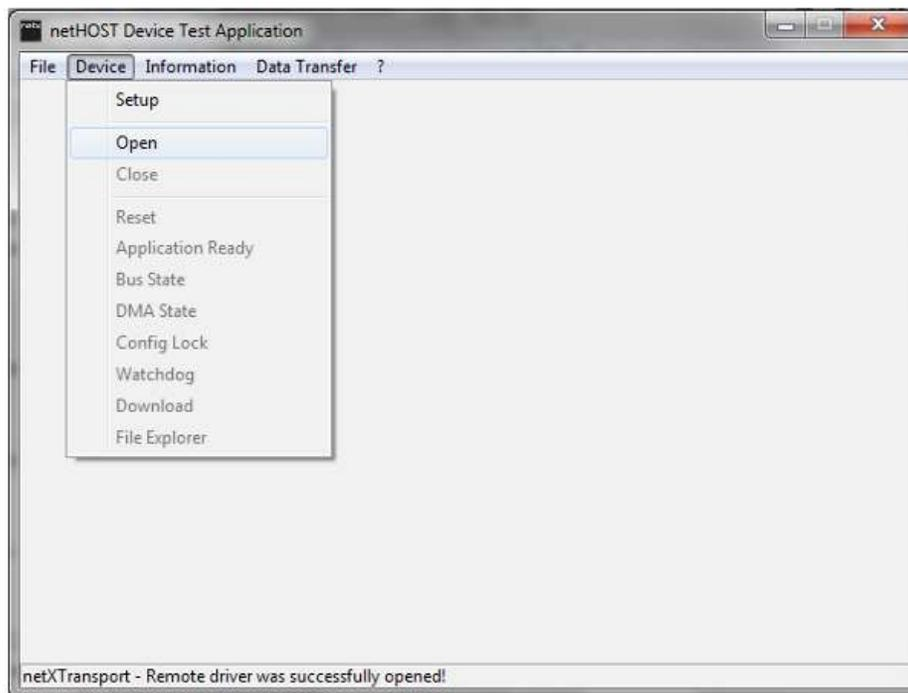

Figure 40: Open device [netHOST\_open\_1]
15. Click "Device" (on the top ribbon) and select "Open" on the pop-up (Figure 40, STMA-69234);